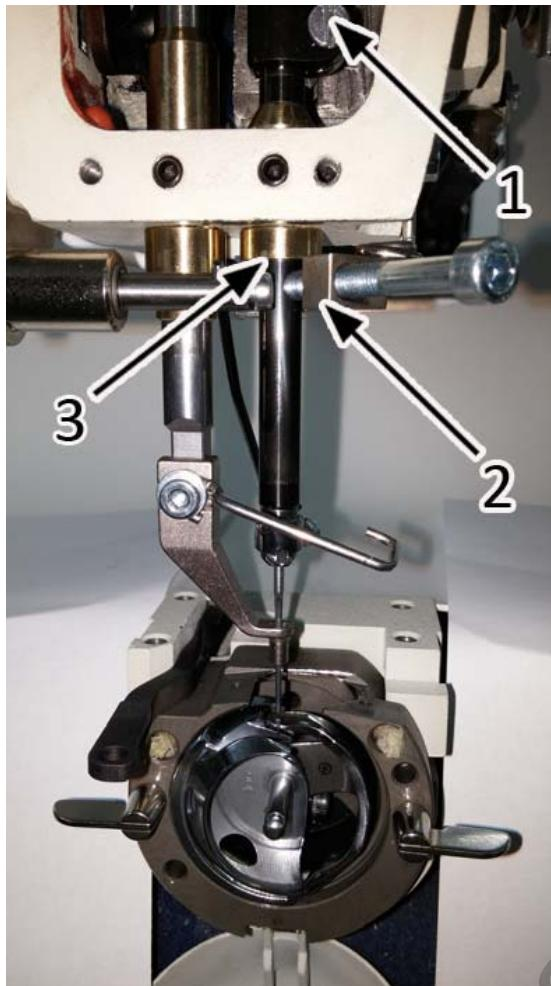
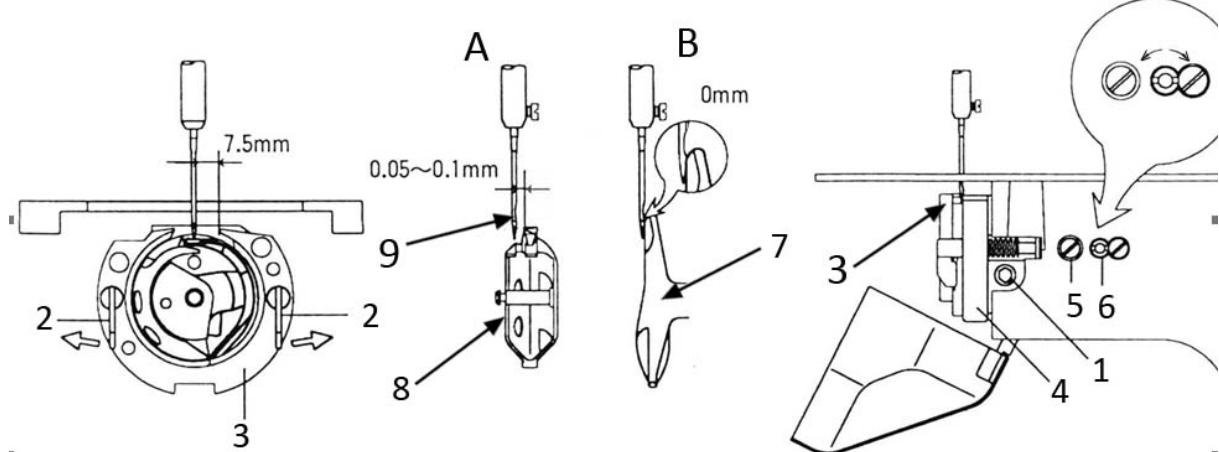

Fig. 18
Fig. 20
The hook in connection with the needle must be set so that the edge is in the position of lower relief of needle when the hook is taking the loop of upper thread. Figure 20, detail A.
Recommended process, Figure 18,19,20:
- A. Set the needle into the lower reversal point by turning the hand wheel. Put the stop sleeve (2) on needle bar and insert the scale (4) between stop sleeve and bushing (3). Tighten the screw (5) so that there is no play between the bushing, stop sleeve and scale. The thickness of the scale for shuttle hook is 2.5mm.
- B. Remove the scale (4) and pull the scale (2) onto the bushing (3) by turning the hand wheel.
- C. In this position the ege of the hook must be in the axe of the needle. Loosen the screw (1) (Fig. 18) and turn with the shuttle driver (7) (Fig. 20) to the position so that the hook (8) touches the shuttle driver by turning in clockwise. In this position the edge of the hook must be in the axe of the needle. The screw (7) is loosen so there is necessary to set this screw in contact with the needle, Figure 20, detail B. It is used as protection of the hook.
- E. Turn safety levers (2), Fig. 20 and remove the ring of the hook (3) from the hub (4).
- F. Loosen the screw (5) and set the edge of the hook in distance of 0.05 - 0.1mm from the hook relief (9) by turning the eccentric. Figure 20, detail A.
- G. After that set the distance from the axe of the needle and the edge of hub of hook relief (4) in value 7,5mm.
- H. Put the ring of the hook (3), lock safety levers (2) to vertical position and check if all screws are tightened carefully.